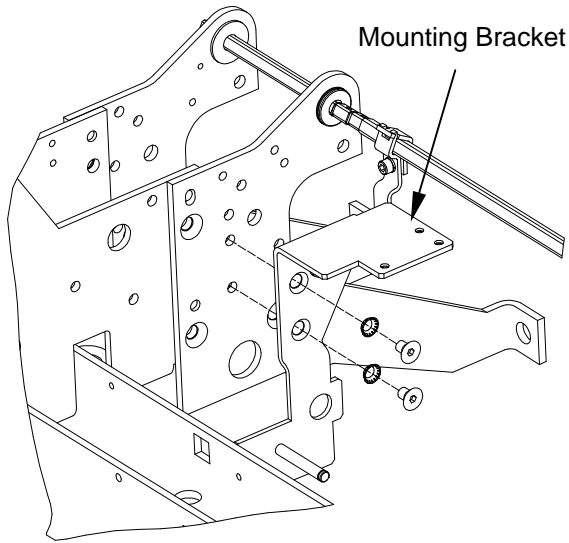

Figure 4. Mounting bracket assembly
4. Assemble the Network Interlock mounting bracket to the circuit breaker frame using two sets of 3/8-inch countersunk bolts and washers as shown in Figure 4.